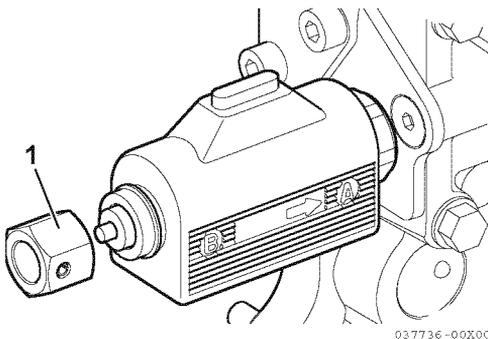

Figure 9
2. Reverse the emergency nut (1, Figure 9) and thread it onto electric valve.